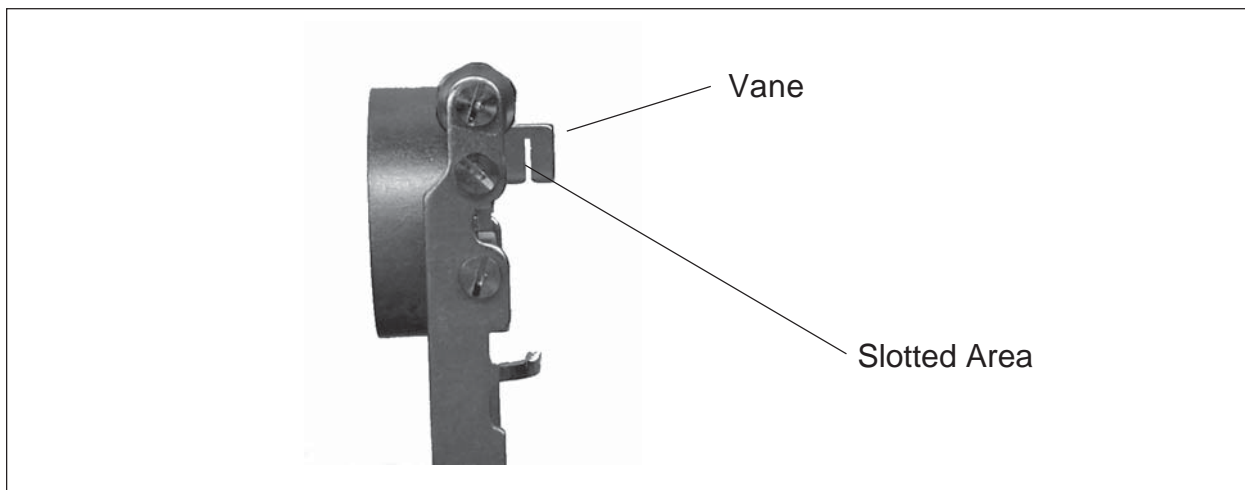

Figure 3-60. Ratio Beam Vane Slotted Area.
5. Refer to figure 3-60 and inspect the slotted area on the Ratio Beam and clean if necessary.